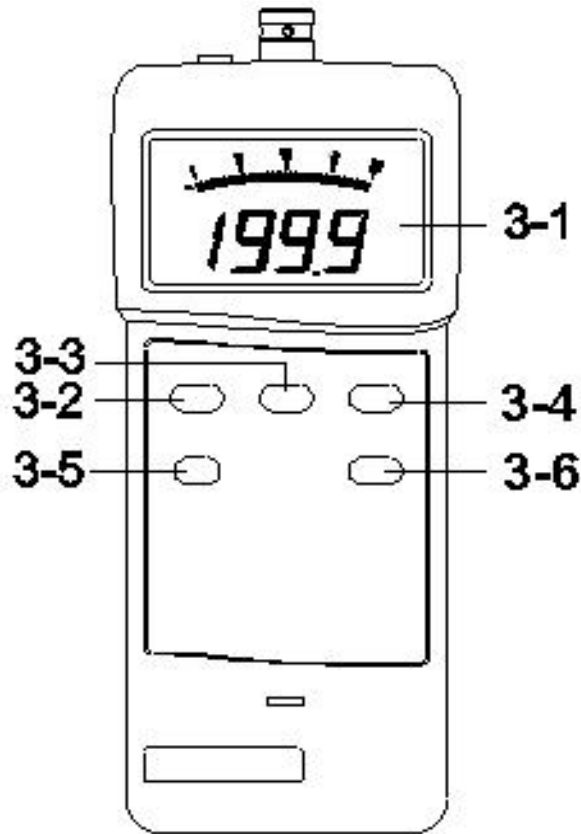
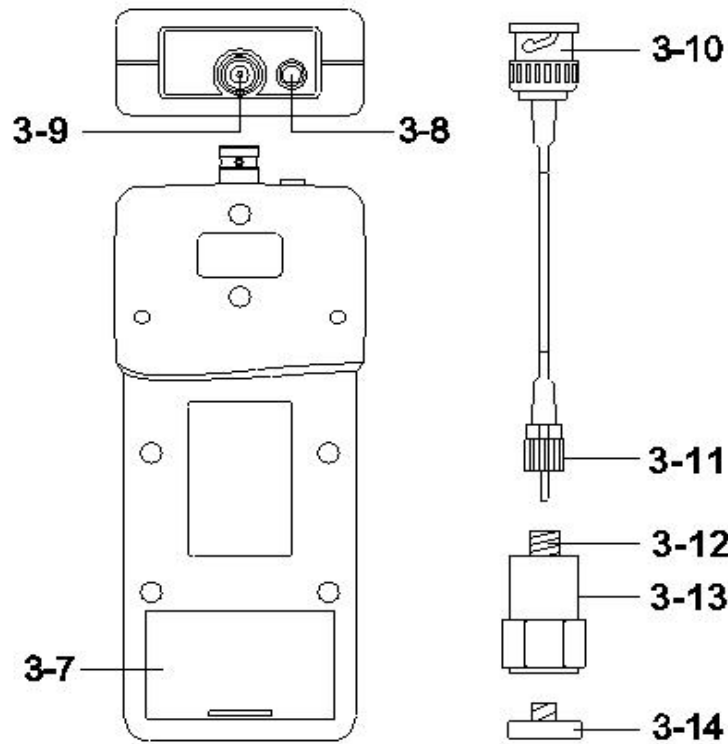

Fig. 1
Fig. 2
- 1) Plug in the " BNC plug of cable " (3-10, Fig. 2) to the " BNC socket of meter " (3-9, Fig. 1).
- 2) Plug in the " Mini plug of cable " (3-11, Fig. 2) to the " Input socket of vibration sensor " (3-12, Fig. 2).
- 3) Power on the meter by press the " Power Button " (3-2, Fig. 1) once a while.
* If the surface material of measuring article is the ferrous material, connect " Vibration sensor " (3-13, Fig. 2) with the " Magnetic base " (3-14, Fig. 2). Put the whole unit (Vibration sensor & Magnetic base) to the surface of measuring article.
Select the desired function (RMS, PEAK, MAX-HOLD) by pressing the " FUNCTION Button " (3-5, Fig. 1).
Select the desired display unit by pressing the " UNIT Button " (3-6, Fig. 1).
If press the " UNIT Button" (3-6, Fig. 1) continuously at least 5 seconds, then will change the Metric unit (m/s² G, mm/s, cm/s, mm) to Imperial unit (ft/s² , inch/s, inch) each other.
During the measurement, push the " Hold button " (3-3, Fig. 1) will hold the measured value & the LCD will indicate " H " symbol.
- a. Get into RECORD mode by momentarily pressing " REC Button " (3-4, Fig. 1) once. REC icon will be ON.
- b. Get out RECORD mode by pressing and hold " REC Button " (3-4, Fig. 1) for 2 seconds. REC icon will be OFF.
- 1) Plug in the " BNC plug of cable " (3-10, Fig. 2) to the " BNC socket of meter " (3-9, Fig. 2).
- 2) Plug in the " Mini plug of cable " (3-11, Fig. 1) to the " Input socket of vibration sensor " (3-12, Fig. 2).
- 6) Press the " HOLD Button " (3-3, Fig. 1) continuously at least 2 seconds will let the display reach zero value.
During the measurement, push the " Record Button " (3-4, Fig. 1) to execute the memory record function.
1. Press the " REC Button " (3-4, Fig. 1) once to start the Data Record function and there will be a " REC " symbol on the display.
2. Press the " LOGGER Button " (3-6, Fig. 1) once to start the Auto Data Logger function. The upper display will show the sampling time in seconds (For example, 1, 2, 10, 30, 60, 600, 1800, 3600) once a while then revert to the normal display screen. In the same the " REC " indicator will be flash per the sampling time, in the same time, the beeper will sound a while. Now the data Logger function is executed and the measuring data will save into the memory per the sampling time.
3. During the Data Logger function is executed, press the " LOGGER Button " (3-6, Fig. 1) once will stop to execute the data logger function, then the " REC " indicator will stop to flash. Pressing the " REC Button " (3-4, Fig. 1) at least two seconds, then the " REC " indicator will be disappeared.
2. Press the " LOGGER Button " (3-6, Fig. 1) once to start the Manual Data Logger function. The upper display will show " 0 " (0 second sampling time) once a while then revert to the normal display screen.
Press the " LOGGER Button " (3-6, Fig. 1) once again will save one measuring data into the memory, indicator will be flash per the sampling time, in the same time, the beeper will sound a while.
3. If intend exit the Manual Data Logger function, just pressing the " REC Button " (3-4, Fig. 1) at least two seconds, then the " REC " indicator will be disaappeared.
2. Use the two fingers to press the " HOLD Button " (3-3, Fig. 1) and the " REC Button " (3-4, Fig. 1) at the same time and not release those fingers, use another finger to push the " POWER Button " (3-2, Fig. 1) once, then until the display show the existing sampling time (for example 1, 2...), then release the two fingers at the same time.
3. Press the " UNIT Button " (3-6, Fig. 1) once a while will change the sampling time (1, 2, 5, 10, 30, 60, 600, 1800, 3600 seconds). After the desired sampling be selected, then press the " REC Button " (3-4, Fig. 1) to save.
- 4 Press the " ESC Button " (3-3, Fig. 1) once will return the normal measuring screen.
2. Use the two fingers to press the " HOLD Button " (3-3, Fig, 1) and the " REC Button " (3-4, Fig. 1) at the same time and not release those fingers, use another finger to push the " POWER Button " (3-2, Fig, 1) once, then until the display show the existing sampling time (for example 1, 2...), then release the two fingers at the same time.
3. Press the " REC Button " (3-4, Fig. 1) continuously at least 5 seconds, then display will show " 0 ".
3. Press the " HOLD Button " (3-3, Fig, 1) or the FUNCTION Button " (3-5, Fig. 1) will search the the data that already save into the memory.
- 1) Press the " Send Button " (3-5, Fig. 1) at least 2 seconds until the display show " 232 " (flashing), release the button.
- 2) Push the " Send Button " (3-5, Fig. 1) once again, the display will show the saved data no, then decrease to " 1 " and the display will present " 232 " again, now all the memory data already send out from the meter via the " RS-232 Output Terminal " (3-8, Fig. 2).
The instrument has RS232 PC serial interface via a 3.5 mm terminal (3-8, Fig. 2).